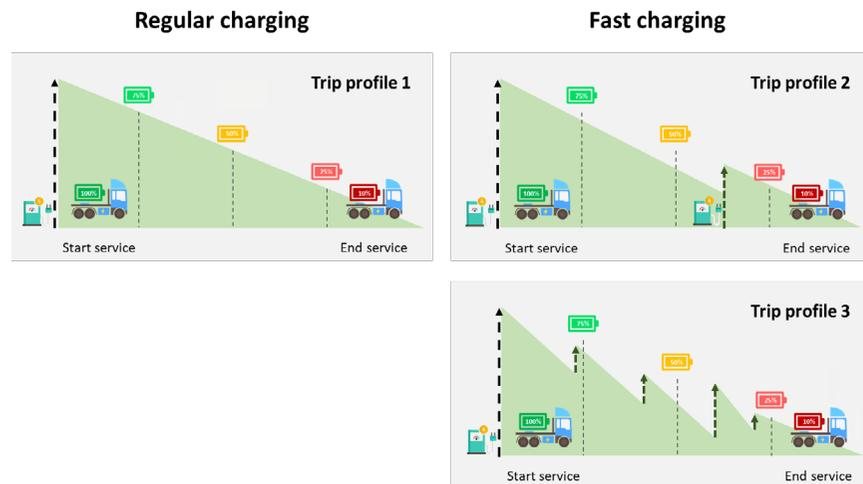

Figure 2: Charging strategies: regular charging and fast charging.
- **Regular charging.** The truck is only charged at night without interim recharging times during the day. See Trip profile 1 in Figure 2.
- **Fast charging.** The truck must be charged during the day (at least once). A fast charger must almost always be used for interim recharging. See *Trip profile 2* and *Trip profile 3* in Figure 2. (For charging times, see Figure 1.) Fast charging is generally combined with regular charging, except when fast charging is exclusively used around the clock.